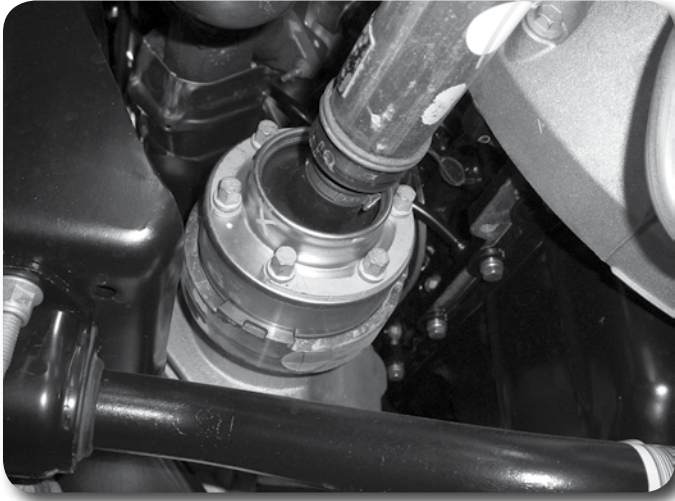

Figure 13
24. Remove the driveshaft mounting bolts and disconnect the driveshaft from the differential **Figure 13**. Allow the driveshaft to rest out of the way.